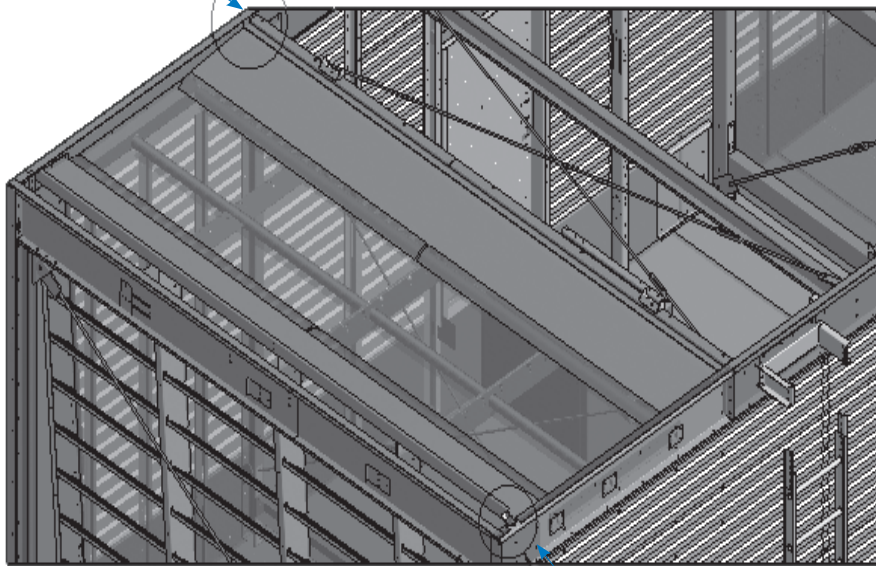
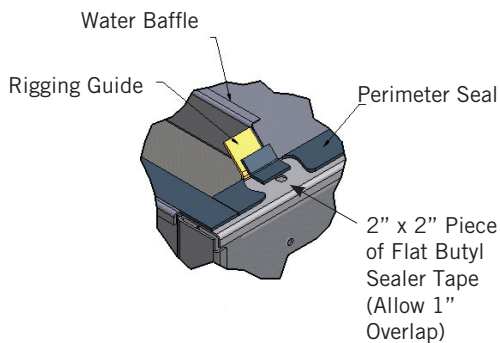
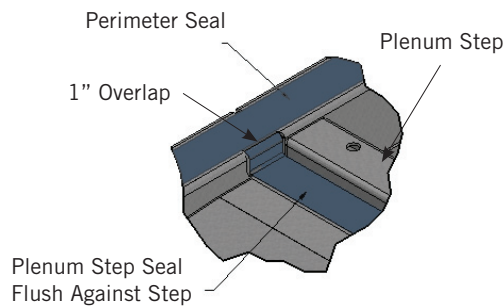
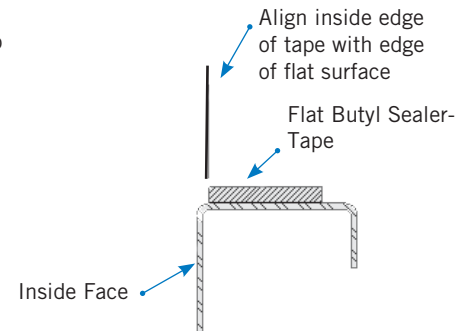

Figure 9. Upper and Lower Assembly for Dual Air Intake FXV3 and CXVT
Figure 10. Perimeter Seal Detail
Figure 11. Plenum Step Detail
Figure 12. Application of Butyl Sealer Tape
4. Apply flat butyl sealer tape (BAC part # 554000) to critical seal areas shown in **Figure 9**. Apply a 2" x 2" piece of flat butyl sealer tape to the corner rigging guides as shown in **Figure 10**. Apply flat butyl sealer tape across the plenum step as shown in **Figure 11**.
5. Apply flat butyl sealer tape around the entire perimeter of the lower section. Align the tape on the perimeter flange as shown in **Figure 12**. See **Figures 10** and **11** for critical sealing areas. Allow 1" overlap tape at these locations.
Critical Seal (See Figure 11)
Critical Seal (See Figure 10)